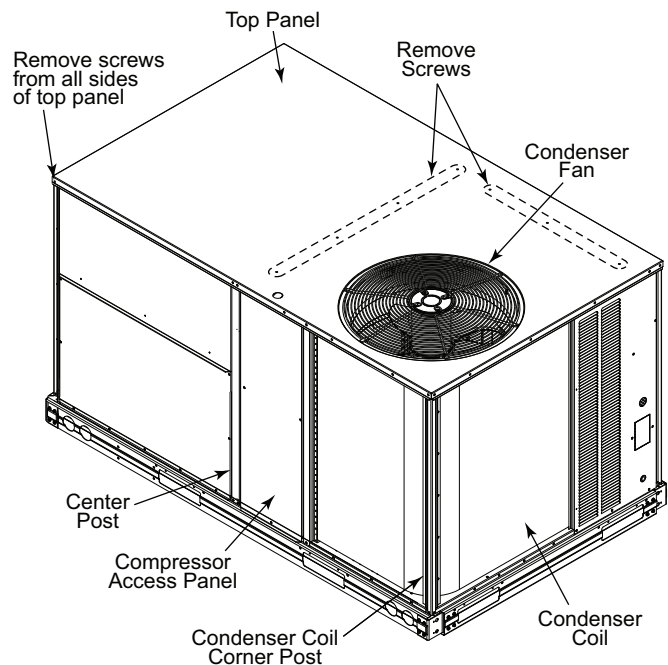

Fig. 16 — Location of Screws and Coil Corner Post
2. Remove all screws from the top panel except the screws securing the condenser fan to the top panel. (See Fig. 16.)